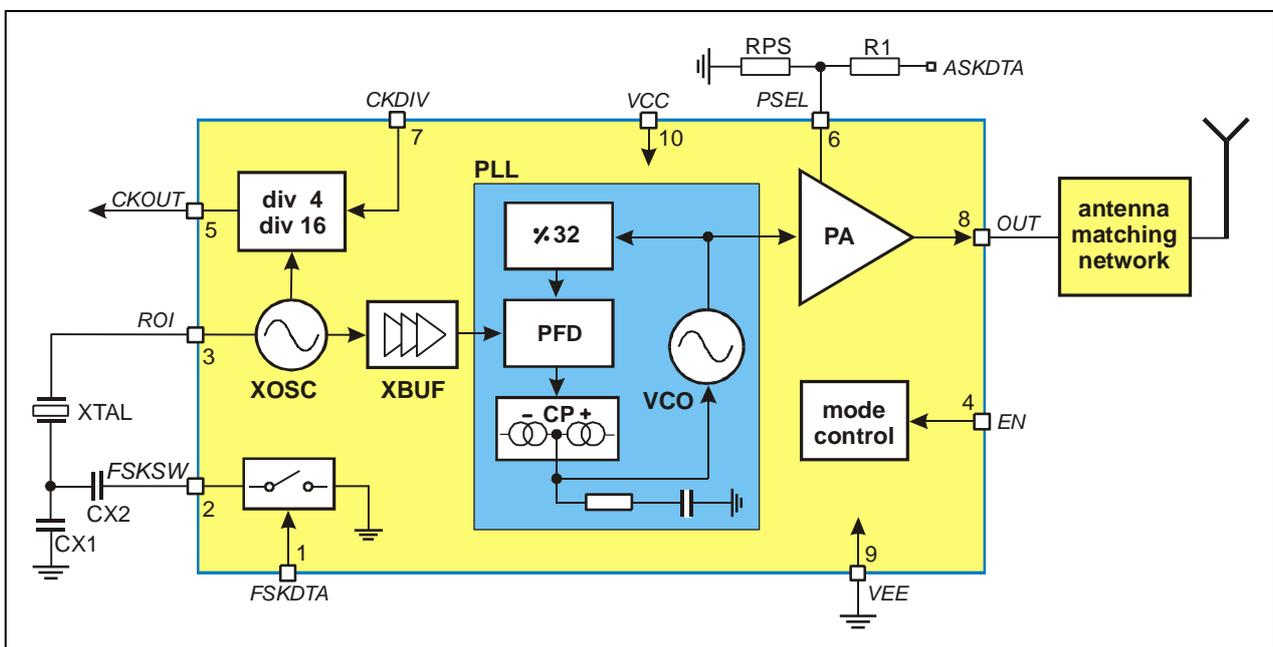

Fig. 1: Block diagram with external components
As depicted in Fig.1, the TH72016 transmitter consists of a fully integrated voltage-controlled oscillator (VCO), a divide-by-32 divider (div32), a phase-frequency detector (PFD) and a charge pump (CP). An internal loop filter determines the dynamic behavior of the PLL and suppresses reference spurious signals. A Colpitts crystal oscillator (XOSC) is used as the reference oscillator of a phase-locked loop (PLL) synthesizer. The VCO's output signal feeds the power amplifier (PA). The RF signal power P_{out} can be adjusted in four steps from $P_{out} = -12$ dBm to +10 dBm, either by changing the value of resistor RPS or by varying the voltage V_{PS} at pin PSEL. The open-collector output (OUT) can be used either to directly drive a loop antenna or to be matched to a 50 Ohm load. Bandgap biasing ensures stable operation of the IC at a power supply range of 1.95 V to 5.5 V.